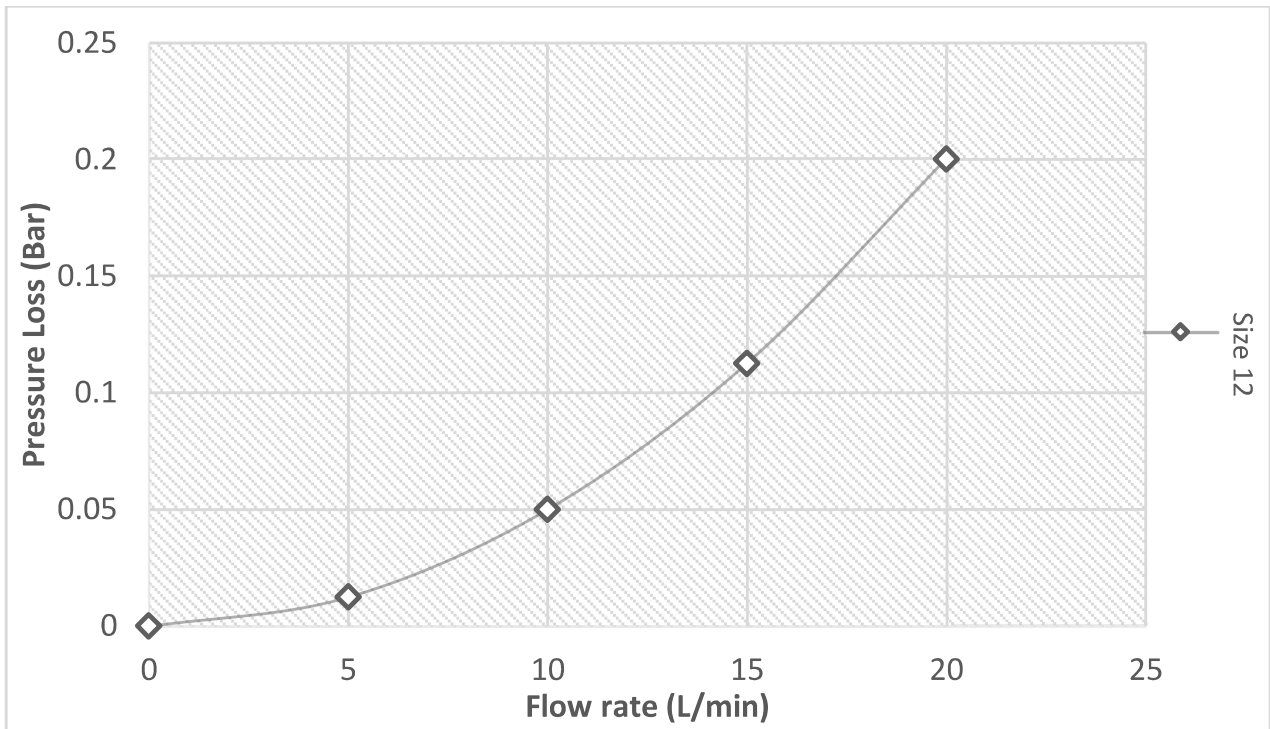
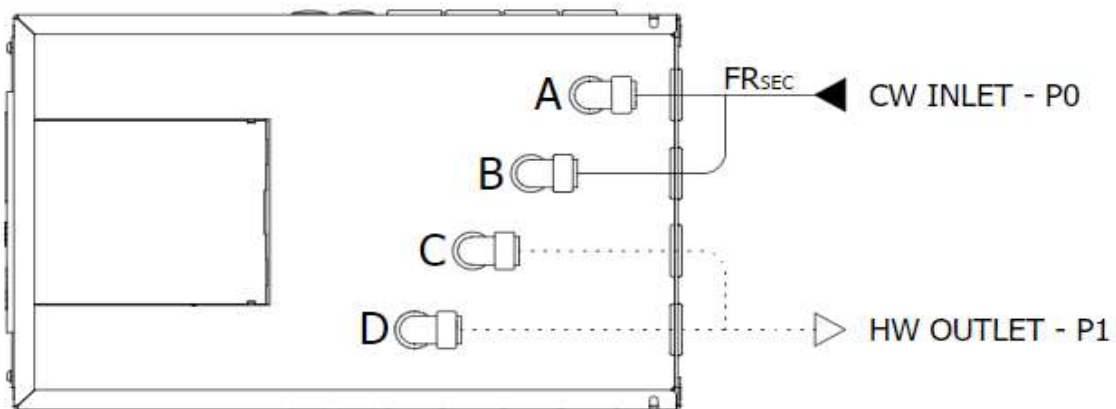

Figure 6.1: UniQ eHW 12 Heat Battery pressure loss characteristics graph
Figure 6.2: Pressure loss at inlet & outlet of the Heat Battery
Pressure loss characteristics K_v Values	Figure 6.1 (Section 2.6)
Pressure loss characteristics can be calculated using the graph below (Figure 6.1). The points that the pressure loss for the Heat Battery are displayed in (Figure 6.2)
Note: - Cold water inlet is branched to feed into ports A&B and the hot water outlet is branched together and connected into ports C&D. (Figure 6.2).
- Mains cold water supply should be connected to Heat Battery connection 'A&B'. The hot water outlet should be connected to 'C&D' (see Figures 6.2, 12.1 and 13.1).